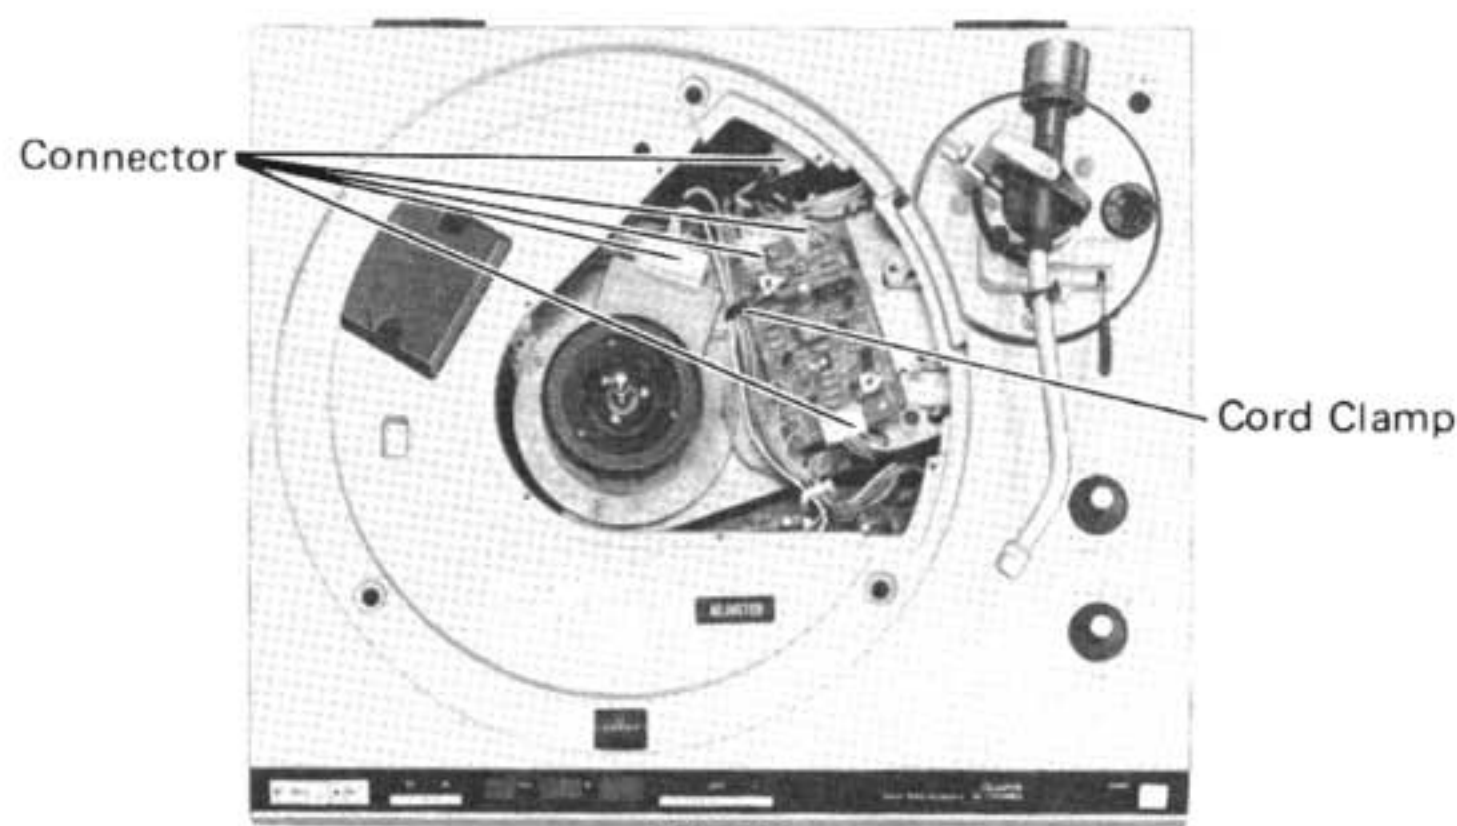

Fig. 9
11. Unplug the 5 plug-in connectors and 1 cord clamp (Fig. 9).